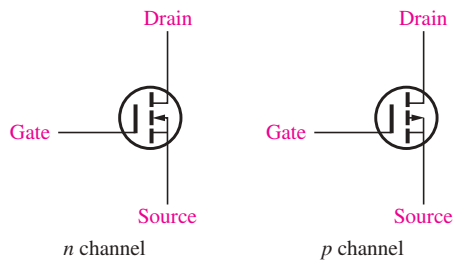

FIGURE 8–35
The schematic symbols for the n -channel and p -channel E-MOSFETs are shown in Figure 8–35. The broken lines symbolize the absence of a physical channel. An inward-pointing substrate arrow is for n channel, and an outward-pointing arrow is for p channel. Nearly all discrete E-MOSFET devices have the substrate internally connected to the source as shown in the schematic symbol (sometimes it is shown as the body (B) terminal). The substrate is rarely needed, and it plays no role in circuit operation, hence the internal connection. In integrated circuits, the substrate is usually connected to the most negative power supply for n -channel devices (most positive supply for p -channel devices). An exception is the MIC94030, in which the substrate is brought out, making it a four-terminal device.